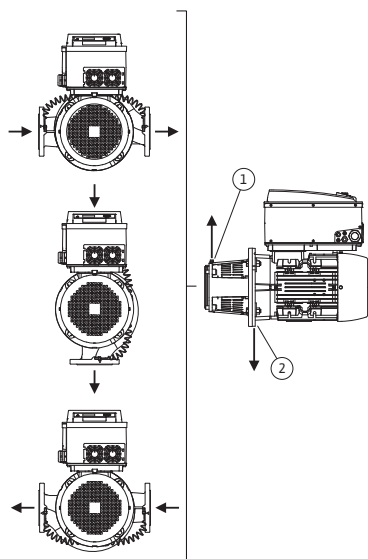
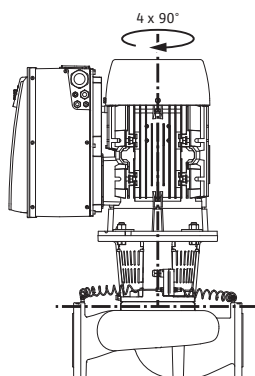

Fig. 18: Permitted installation positions with horizontal motor shaft
Fig. 19: Permitted installation positions with vertical motor shaft
The permitted installation positions with horizontal motor shaft and electronic module facing up (0°) are shown in Fig. 18. The permissible installation positions with electronic module mounted on the side ($\pm 90^\circ$) are not shown. Any installation position is allowed except for “electronic module facing down” (-180°). The venting of the pump is only ensured when the air vent valve is pointing upwards (Fig. 18, Item 1). Only in this position (0°) can condensate be directed away via an existing drilled hole, pump lantern and motor (Fig. 18, Item 2).
The permitted installation positions with horizontal motor shaft are shown in Fig. 19. All installation positions except for “motor facing down” are allowed.
- The air vent valve at the lantern (Fig. 6, Item 1.31) always has to be pointed upwards if the motor shaft is horizontal (Fig. 6). If the motor shaft is vertical, any orientation is permitted. See also Fig. 18: "Permitted installation positions with horizontal motor shaft" on page 81 and Fig. 19: "Permitted installation positions with vertical motor shaft" on page 81.
- With a horizontal motor shaft, the condensate hole must be positioned towards the bottom (Fig 18, Item 2). If necessary, the motor must be turned accordingly.